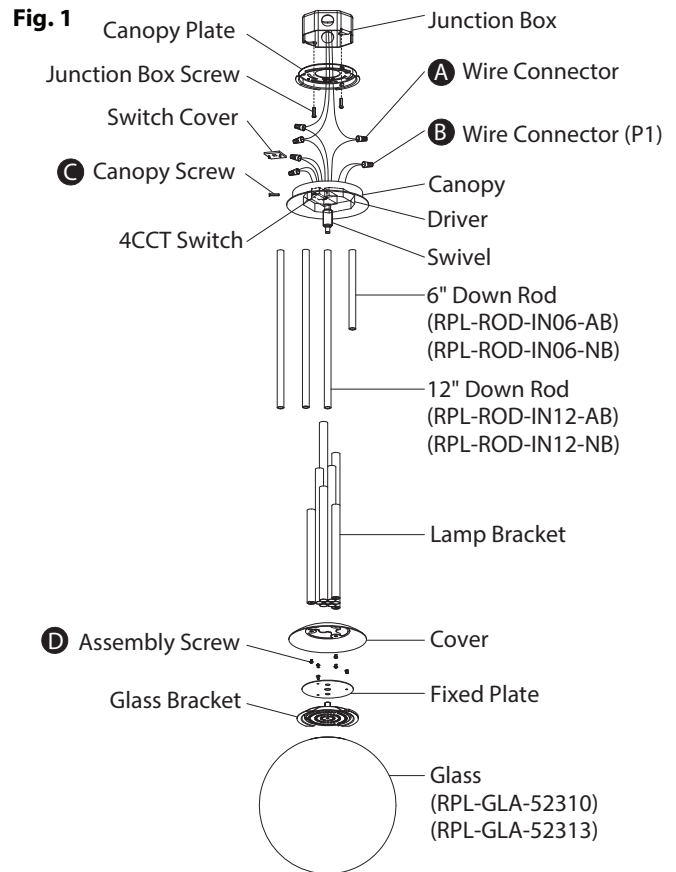
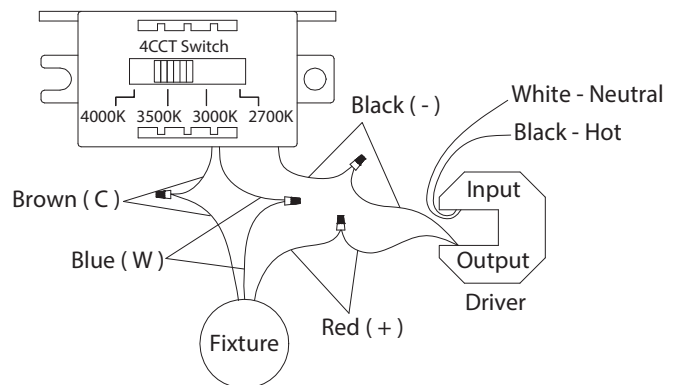

Fig. 3
Fig. 2 Wiring
3. Remove the canopy screw (C) from the ceiling plate.
4. The lamp can switch between four color temperatures (2700K-3000K-3500K-4000K), which can be adjusted to your preference with the switch in the canopy (Fig.3).
CONNECTING THE WIRES (Fig. 2, Fig. 3)
10. Due to limited space within the canopy, shorten the cable as necessary to make the installation easier. Make sure to identify and label all the wiring properly before any trimming/shortening. (Fig. 3)
11. Connect the driver's input/output wires and 4CCT switch wires as shown in Fig. 2/Fig. 3. Ensure all wire connectors (A), (B) are secure. Connect the fixture's ground wire to the ground in the junction box; this will be either a green wire or a bare copper wire. After wires are connected, tuck them carefully inside the junction box.